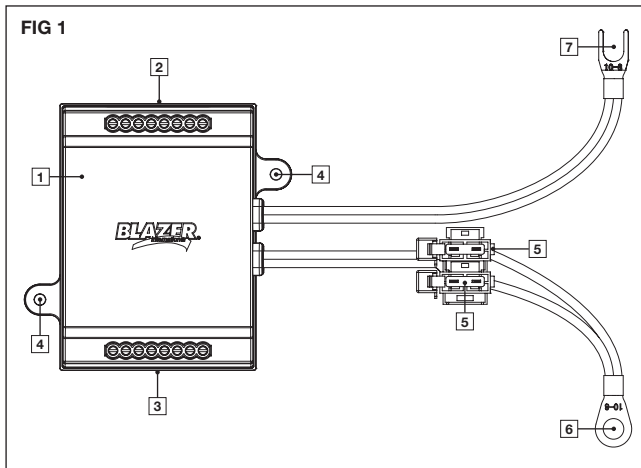

FIG 1
6. Attach the auxiliary lights/equipment following correct polarity on the terminals and not exceeding the maximum amperage of the channels (amperage printed on WMS and corresponds to amperage printed on the remote control for each bank of terminals). See **FIG 1**